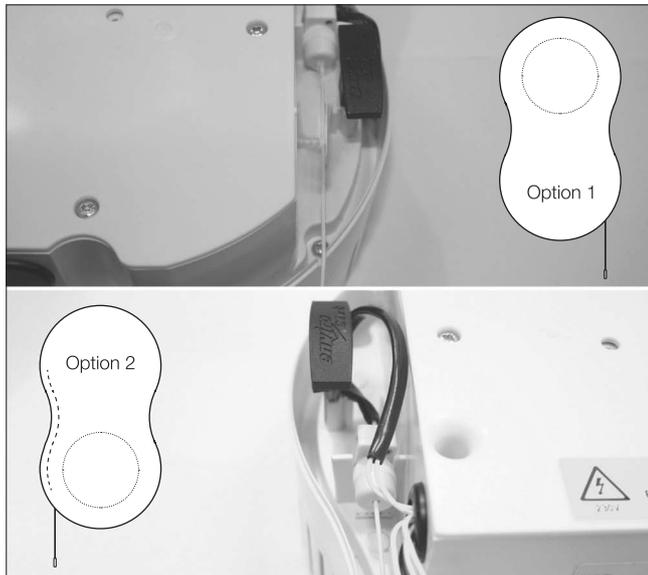

Fig.9A
- 9 The next step is to fit the pullcord. Depending on the orientation of the unit, the pullcord can be situated in 4 positions (Fig.9A & 9B).